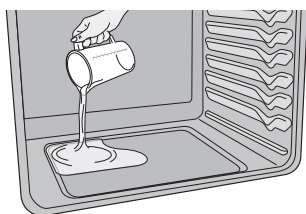

Figure 43: Add 1 cup of tap water
3. Pour 1 cup of tap water onto the oven bottom. (Figure 43) Close oven door.